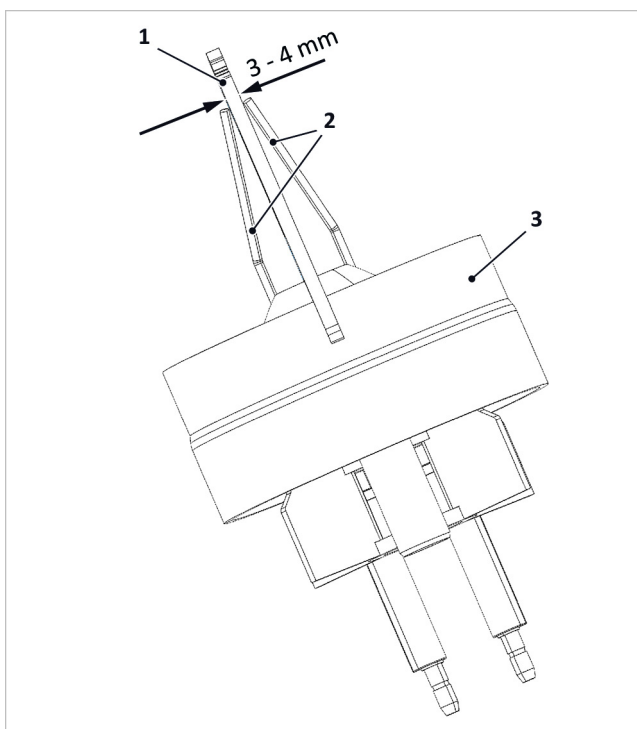

Fig. 146: Checking the ignition electrode gaps
3. Check the electrode gaps as shown in → Fig. 146 and correct by bending them, if necessary.